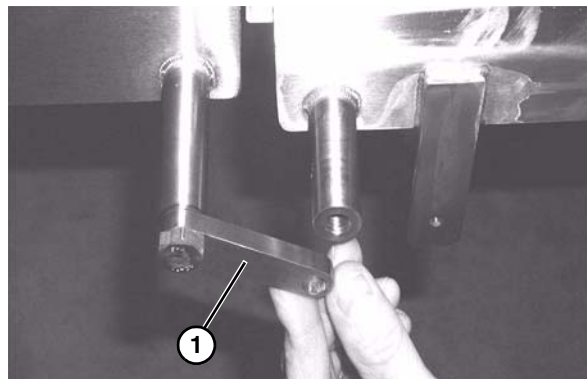

Figure 8
4. Attach the flat connectors (**Figure 8, item 1**), if applicable, to the inside of the frame sections.